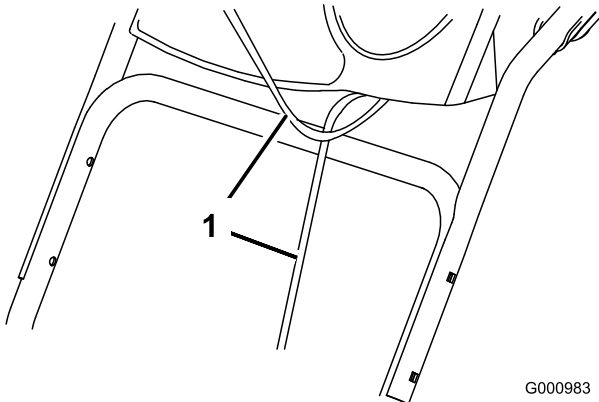

Figure 4
1. Lift and rotate the upper handle and position it over the lower handle (Figure 4).